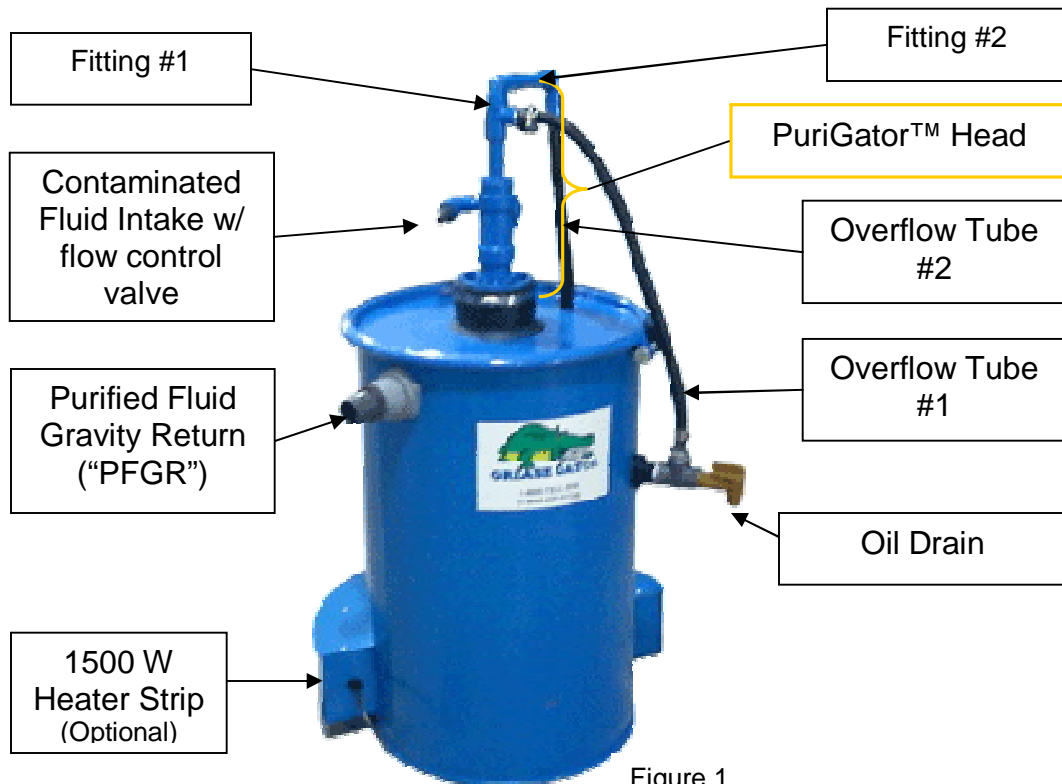

Figure 1
2. Attach Overflow Tubes (hoses). Be careful to attach as shown in figure 1. The hose coming off the Oil Drain should be attached to Fitting #1 (see Figure 1). The hose coming out of the drum should be attached to Fitting #2 (see Figure 1).
5. Measure distance from top of pump (discharge end) to the Contaminated Fluid Intake fitting on the PuriGator™ (Figure 1). Cut black hose the length of this measurement and connect hose from pump discharge end to Contaminated Fluid Intake barbed fitting